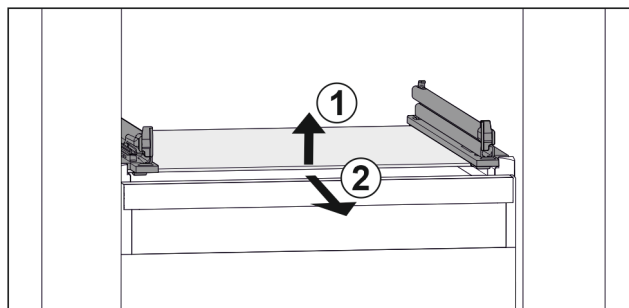

Fig. 36 Example illustration of glass shelf
- ▶ Lift glass shelf at the front. Fig. 36 (1)
- ▶ Take out glass shelf to the front. Fig. 36 (2)